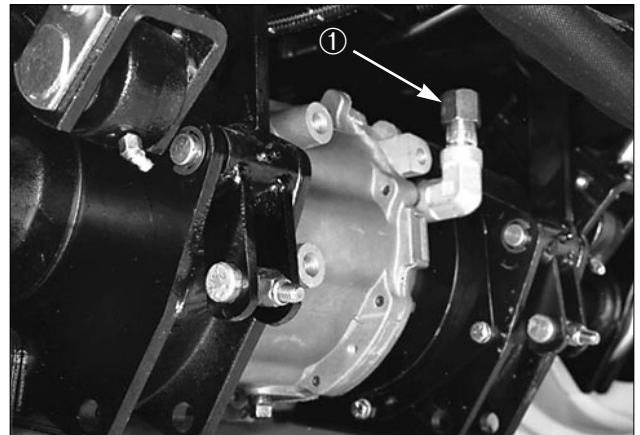

Figure 7
3. Unscrew the dipstick cap (Fig. 7) from the filler neck